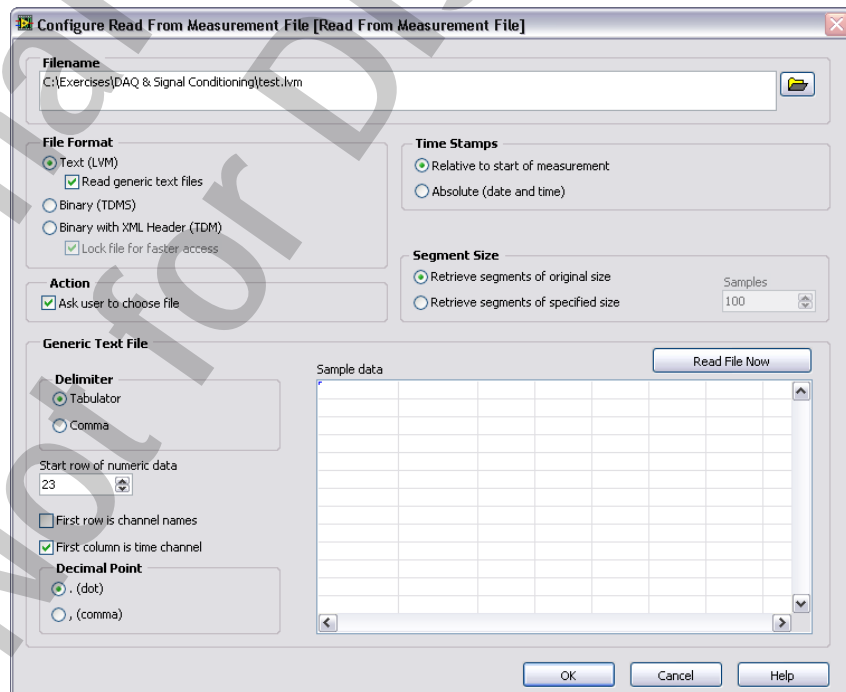

Figure 3-15. Configure Read From Measurement File Dialog
- In the **Configure Read From Measurement File** dialog box, select the settings shown in Figure 3-15.